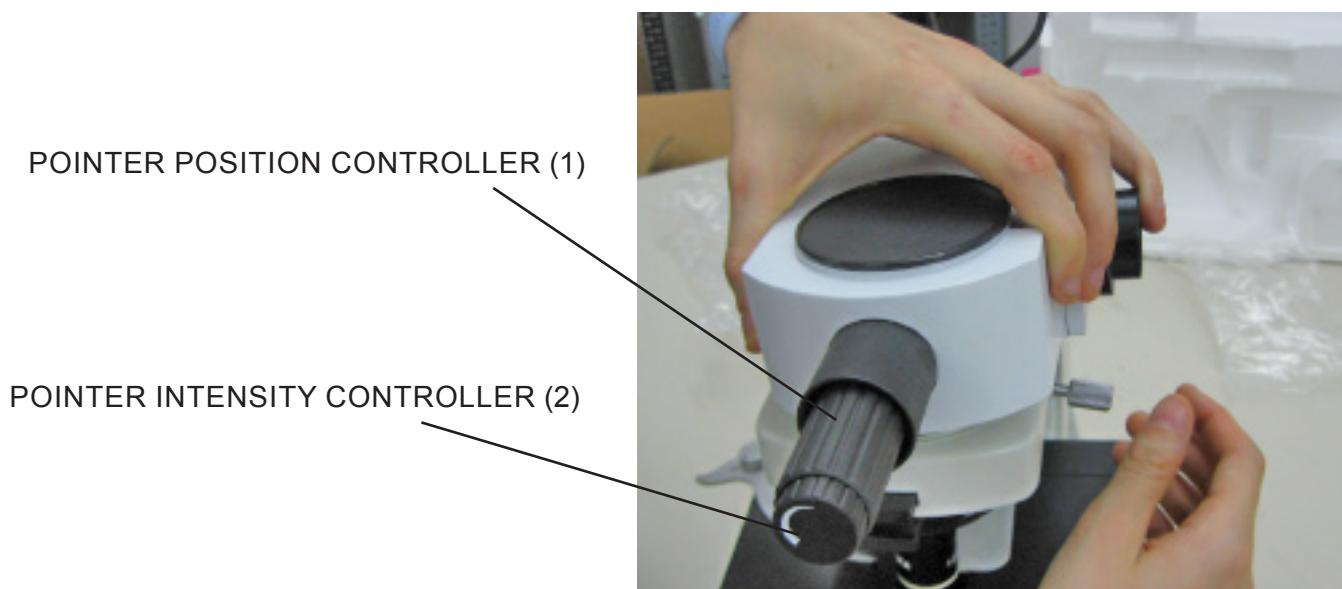

Fig. 1
- 2.2** Place the splitter attachment of the multidiscussion system and tighten the lock screw on the right side of the microscope (Fig. 1).